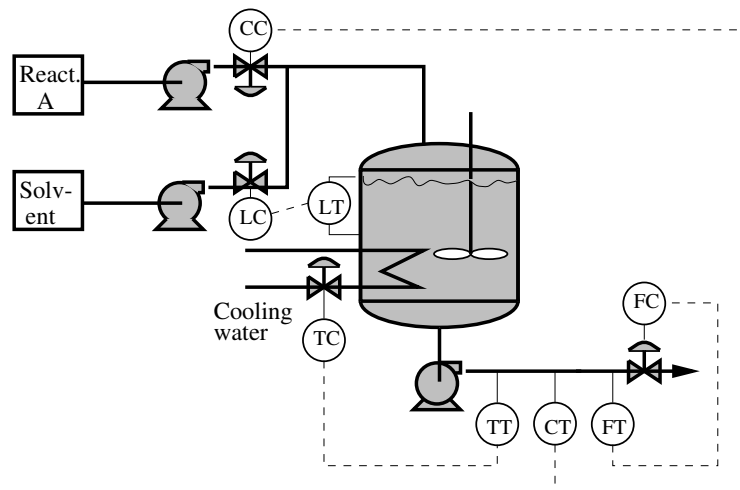

Figure 1.6 A control system for the reactor system in Problem 1.7 (Extra).
1.7 (Extra) An example of how the reactor system could be controlled is given in Figure 1.6. Several other possibilities exist.